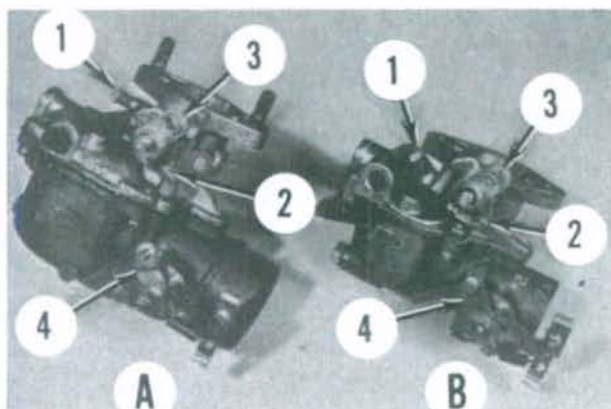

Fig. 43—Carburetor (A) is Zenith 13795 used on MF235 and MF245 models. Carburetor (B) is Zenith OE3435 used on MF230 models.
46. **ADJUSTMENT.** Zenith carburetors are used on all models. The smaller OE3435 carburetor (B—Fig. 43) is used on MF230 models, while 13795 is used on MF235 and MF245 models. Initial setting of idle mixture needle (1) is 2 to 2-1/2 turns open from closed position on the smaller carburetor, 5/8 to 3/4 turn open for the larger 13795 carburetor (A). Final adjustment should be made with engine operating at normal temperature. After mixture is correctly set, adjust low idle speed to 725-775 rpm for all models.
47. **OVERHAUL.** Zenith OE3435 carburetor used on MF230 model tractors is smaller and slightly different than the 13795 carburetor used on MF235 and MF245 model tractors. Refer to Fig. 43.
speed stop screw (2—Fig. 43) to obtain correct idlespeed of 725-775 rpm. Adjust mixture needle to obtain highest smoothest idle, then readjust idle speed if necessary.